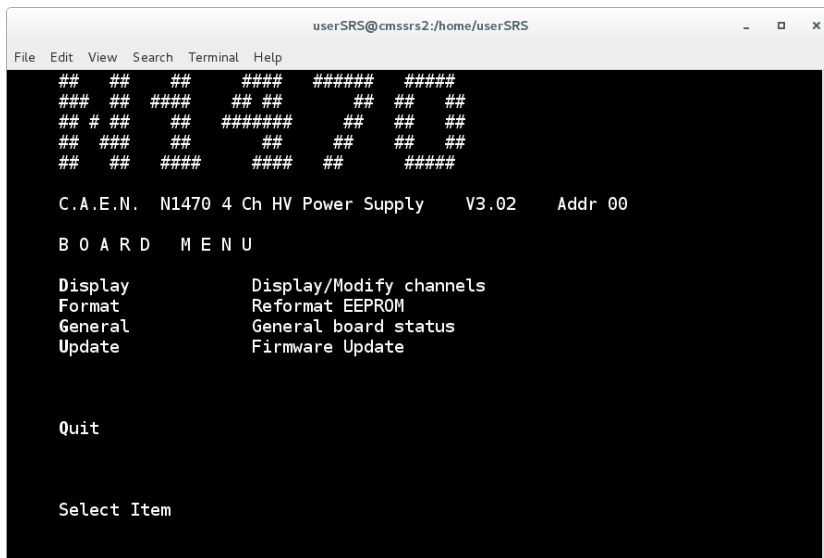
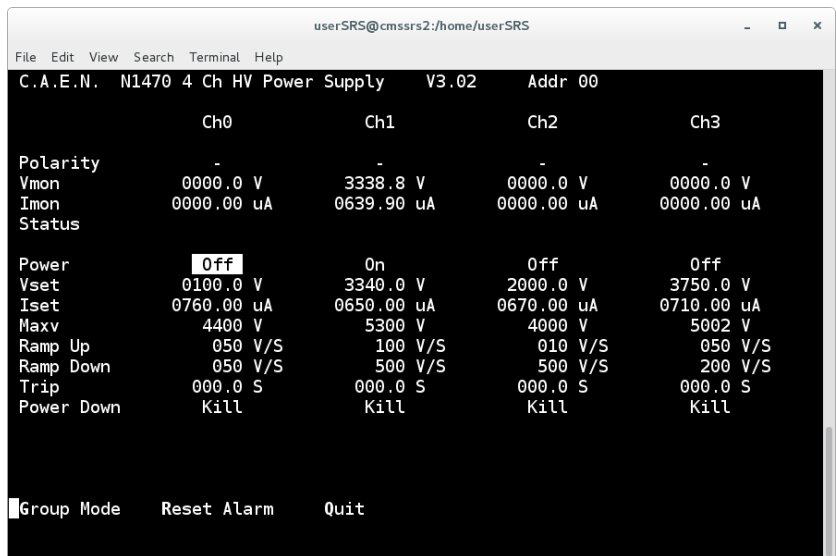

Figure 16: The CAEN HV home screen.
Figure 17: The control
- (d) Now, type caen; the screen in fig. 16 should be shown. Now hit d. The window in fig. 17 should be displayed¹¹.